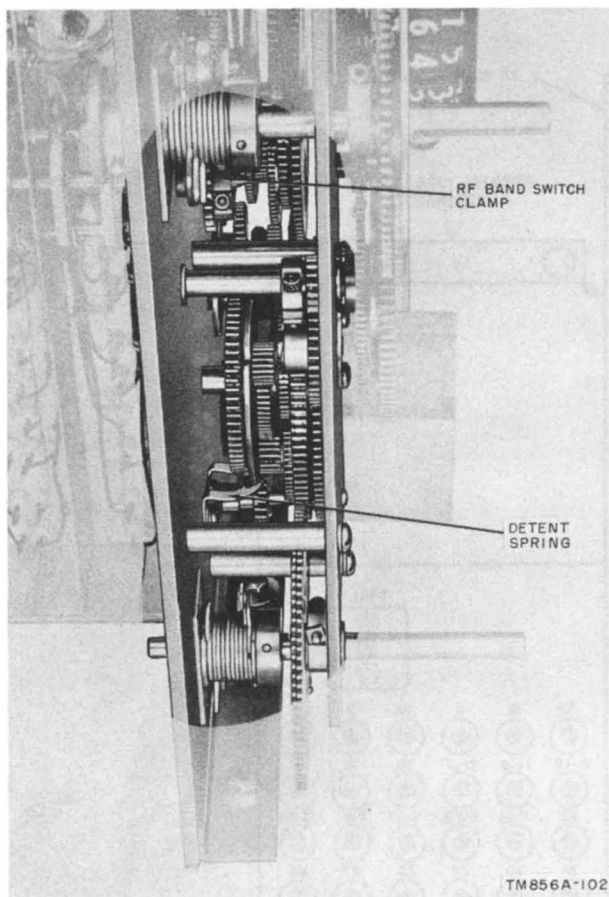

Figure 88. Location of rf band switch shaft clamp and detent spring.
- (4) Remove the rf subchassis (par. 123).
- (5) Loosen the rf band switch clamp (fig. 88) and turn the shaft by hand until the rotors on the rf switches are centered on the 4- to 8-mc switch position contacts. Tighten the clamp after adjustment. Correct positioning of the rf band switch can be determined as in (1) and (2) above.
- (6) Check the rf band switch overtravel as follows: as the MEGACYCLE CHANGE control shaft is turned through the detent position which switches the 4- to 8-mc contacts, the switch rotor contacts have a tendency to *follow* the rotary motion slightly as the MEGACYCLE CHANGE shaft is continued through its rotation. This condition is permissible if the contact overtravel is the same amount for both directions of rotation of the MEGACYCLE CHANGE shaft. Check this condition by turning the MEGACYCLE CHANGE shaft both clockwise and counterclockwise through the detent position which connects the 4- to 8-mc contacts. If the overtravel is not as specified, adjust as follows: